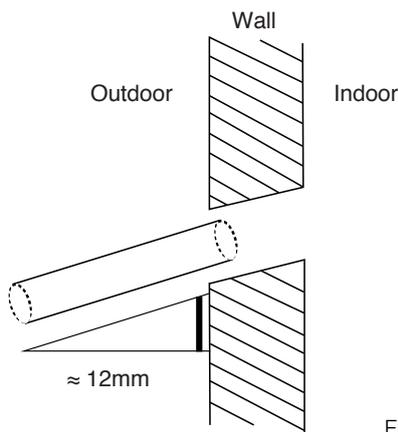

Fig. 6.5
- Using a 65-mm core drill, drill a hole in the wall. Make sure that the hole is drilled at a slight downward angle, so that the outdoor end of the hole is lower than the indoor end by about 12mm. This will ensure proper water drainage (See Fig. 6.5). Place the protective wall cuff in the hole. This protects the edges of the hole and will help seal it when you finish the installation process.